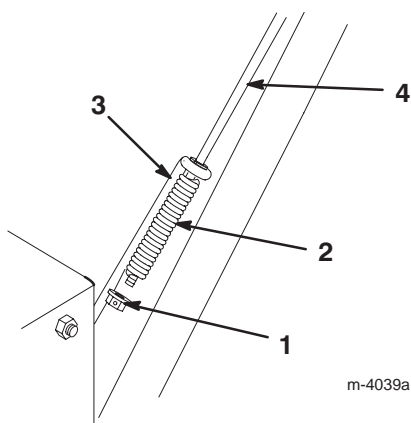

Figure 8
1. Slide the spring over the bottom of the upper traction rod (Fig. 8).
2. Thread a flange locknut (flange side up) onto the bottom of the upper traction rod below the spring (Fig. 8).